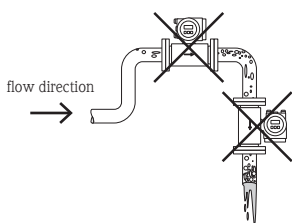

Fig. 1
- Installation at the top of a piping system poses a risk that air will collect and negatively influence the performance (fig.1).